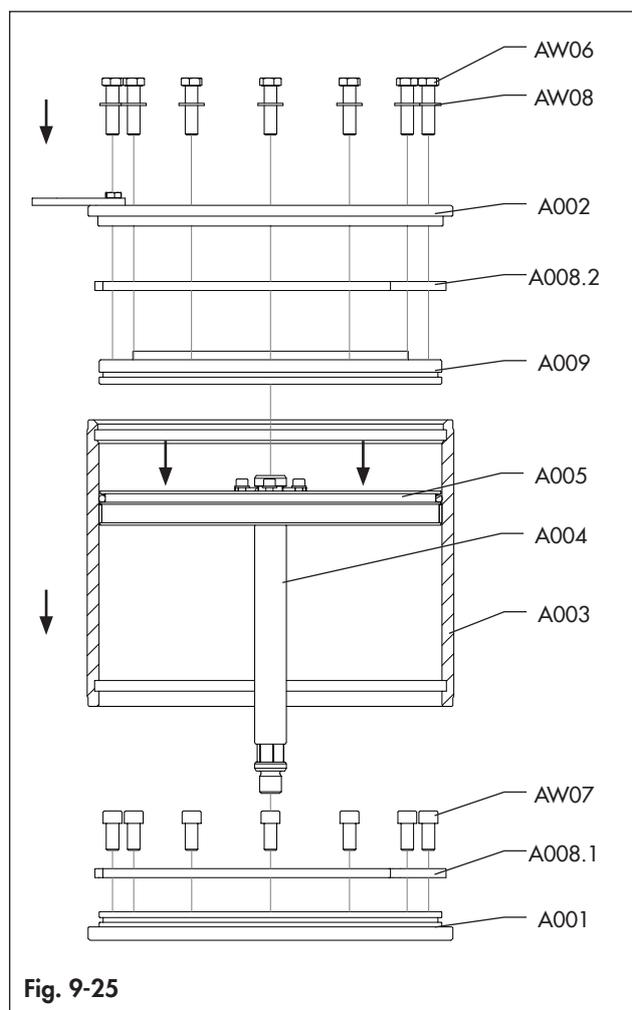
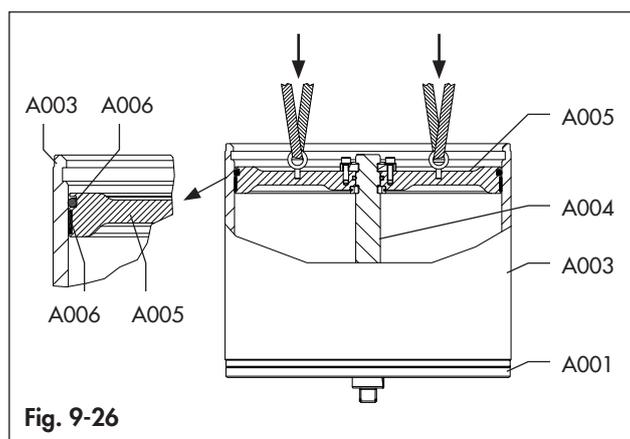
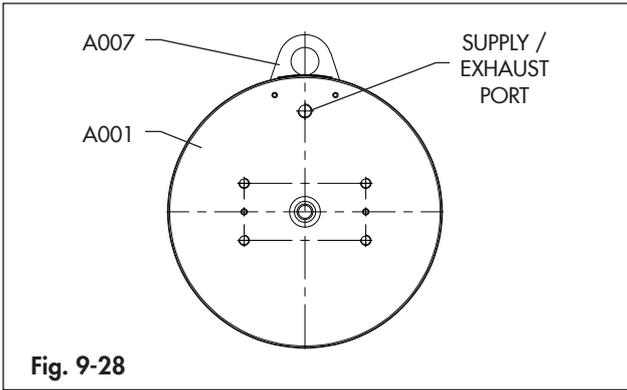

Fig. 9-25
Fig. 9-26
Fig. 9-28
- Carefully lift and place the cylinder (A003) over the flange (A001) with proper lifting equipment as shown in Fig. 9-25, making sure non to damage the o-ring (AW10) shown in Fig. 9-24.
- Lift and place the piston assembly in the cylinder: engage carefully the shaft (A004) into the flange (A001) and the piston (A005) into the cylinder. (Fig. 9-25 and Fig. 9-26)
- Assemble the sectors (A008.2) and the flange (A002) making sure to correctly align the holes for the screws (AW06): make sure to orient the lifting bracket (A007) referring to the flange (A001) as shown in Fig. 9-28.
- ➔ Place the sectors (A008.2) correctly in position into its housing in the cylinder (A003). Fig 9-25 and Fig. 9-28.